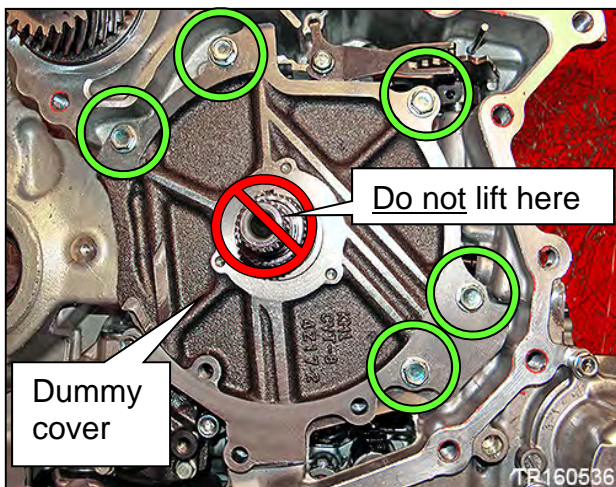

Figure 47
29. Remove the five (5) dummy cover bolts, and then remove the dummy cover. See Figure 47.
- Lift the dummy cover from the sides **ONLY**. Do **NOT** lift from the input shaft (Figure 47). This can lift the clutch pack out.